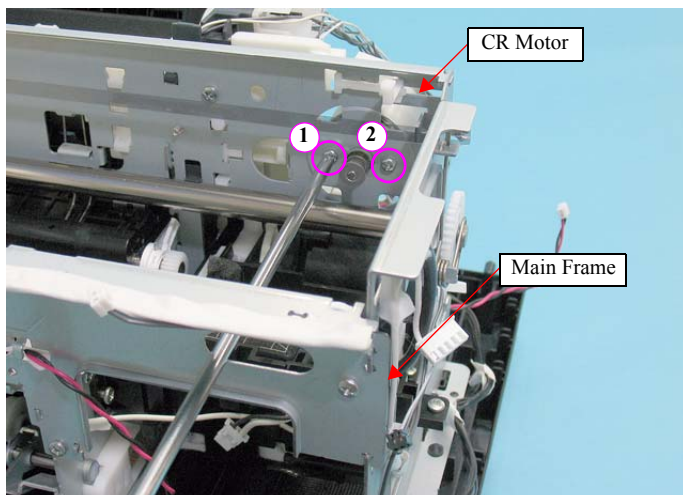

Figure 4-132. Removing the CR Motor (3)
- Tighten the screws in the order indicated in Figure.4-132.